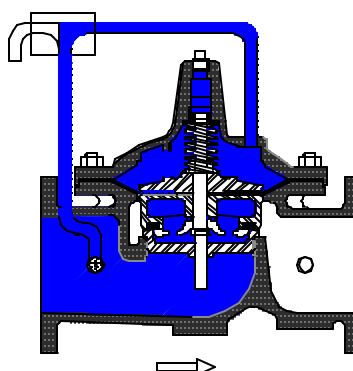

Figure 2
**Figure 2:** The 100 psi is admitted to the cover chamber (above the diaphragm), resulting in a downward force of approximately 1900 lbs (area x 100 psi). The downward force is greater than the upward force by 600 lbs, and the valve now moves to, and will remain in, a closed position due to the 1.5 : 1 ratio. Venting the cover chamber to atmosphere will again result in the valve traveling to a wide open position.